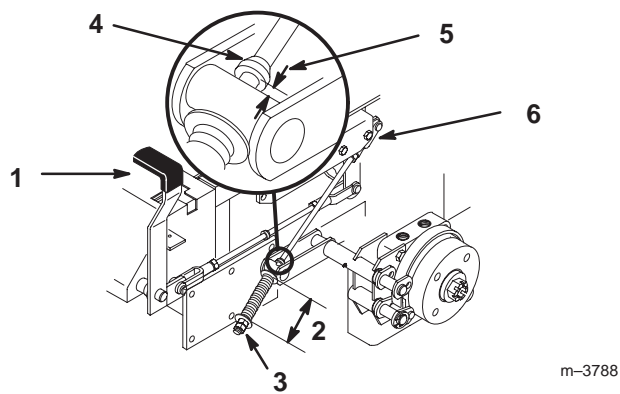

Figure 54
2. Measure the length of the spring. Measurement should be 2.75 in. (70 mm) between washers (Fig. 54).
3. If adjustment is necessary, loosen the jam nut below the spring and tighten the nut directly below the yoke (Fig. 54). Turn the nut until the correct measurement is obtained. Tighten the two nuts together and repeat on opposite side of unit.
- A. Measure the distance between the trunnion roller and the collar on brake rod. Measurement should be 3/16–1/4 in. (5–7 mm) (Fig. 54).
6. If adjustment is necessary, loosen the jam nut directly below the yoke. Turn the bottom rod until the correct measurement is obtained (Fig. 54). Tighten jam nut at yoke